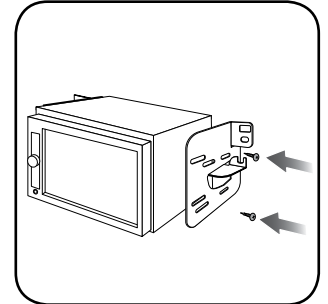

Fig. 2.4
4. Install the metal brackets on to the aftermarket radio. (Fig. 2.4)